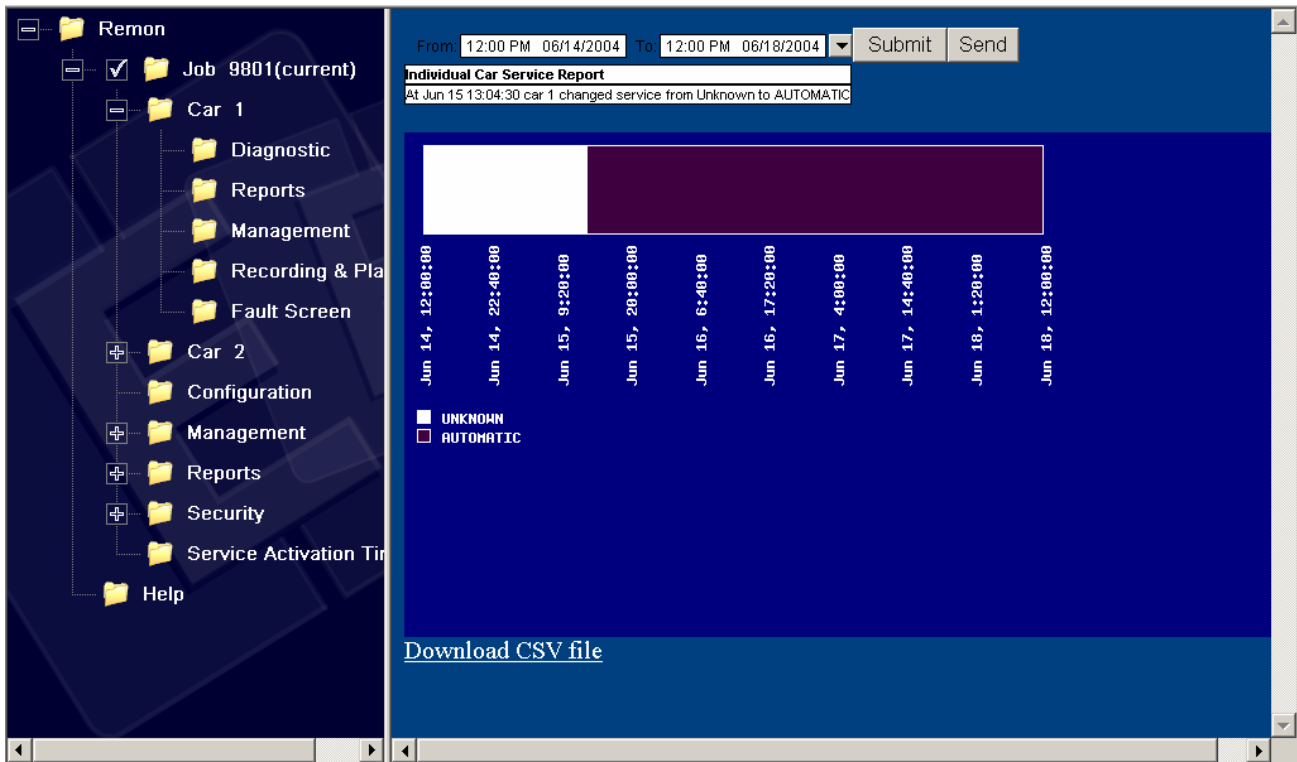

Figure 22. Individual Car Service Report Screen
- Click “Submit” button. Requested data displays in area below the date/time range selection fields as shown in Figure 22. Individual Car Service Report Screen. If the list is long user will have to scroll the page up and down to review it.